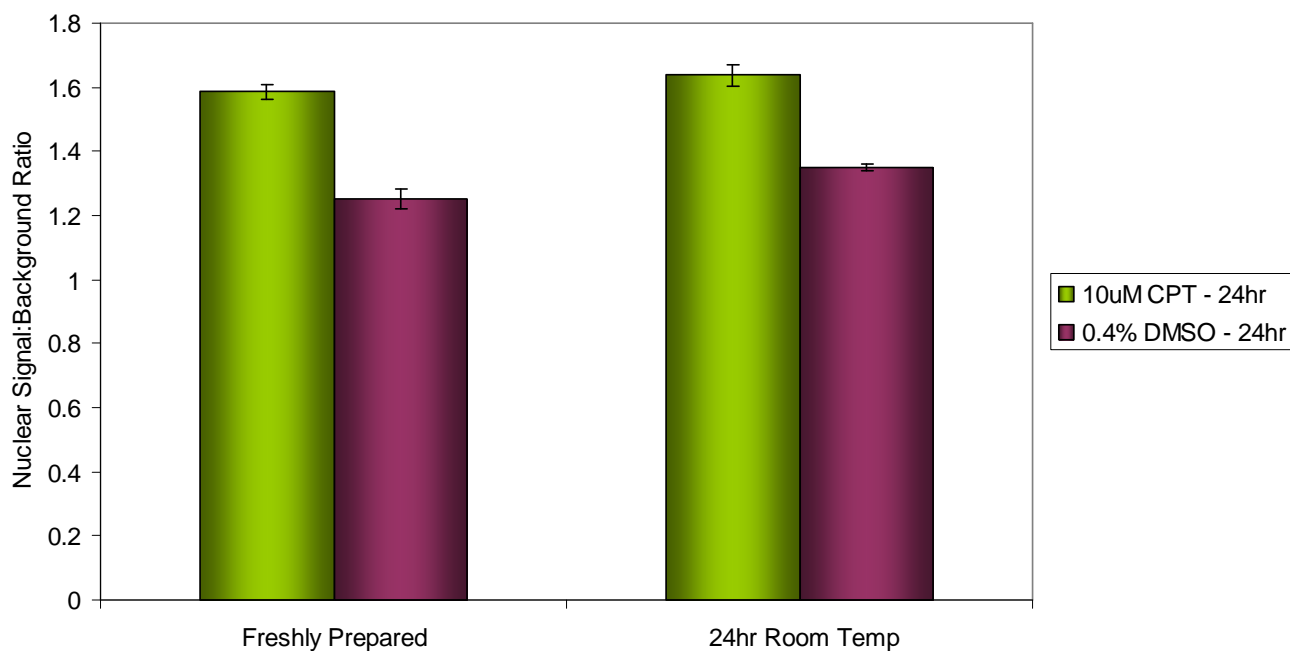

Figure 3. HCS223 Sheep Anti-p53 Assay reagent stability
The assay is immunofluorescence-based, and utilizes a high quality sheep polyclonal antibody which identifies p53 in human, mouse and rat cells. Alternate species cross-reactivity must be confirmed by the end user. The superior Millipore reagents provided with this kit enable the user to reproducibly generate images with a high signal-to-background ratio, greatly facilitating HCS. In addition, working solutions of the primary and secondary antibodies are stable for at least 24 hours at room temperature (Figure 3), a great benefit for large-scale screening applications. The straightforward sample preparation and processing protocol takes less than 2.5 hrs after fixation.
Note: Staining time is ~2.5 hours post-fixation. Do not allow wells to dry out between staining steps. Aspiration and dispensation of reagents should be conducted at low flow rates to diminish any cell loss due to fluid shear. All recommended 'per well' volumes refer to a single well of a 96-well microplate. All recommended 'per 96-well plate' volumes include 25% excess for liquid handling volume loss. All staining steps are performed at room temperature (RT). All buffers and antibody solutions are stable for at least 24 hours at RT (see Figure 3).
4. At end of culture period, pre-warm HCS Fixation Solution (2X) to room temperature (RT) or 37°C if desired (12 mL/96-well plate). In a chemical fume hood, add 100 μ L/well directly to culture media and allow to fix for 30 min at RT. Remove fixative/toxin-containing media and dispose of in compliance with regulations for hazardous waste (see MSDS). If proceeding immediately to staining, rinse each well twice with 200 μ L of HCS Immunofluorescence Buffer. Alternatively, if plates are to be stained at a later time, rinse twice with 200 μ L of Wash Buffer, then leave second rinse volume in wells and store plates tightly sealed at 4°C until staining.